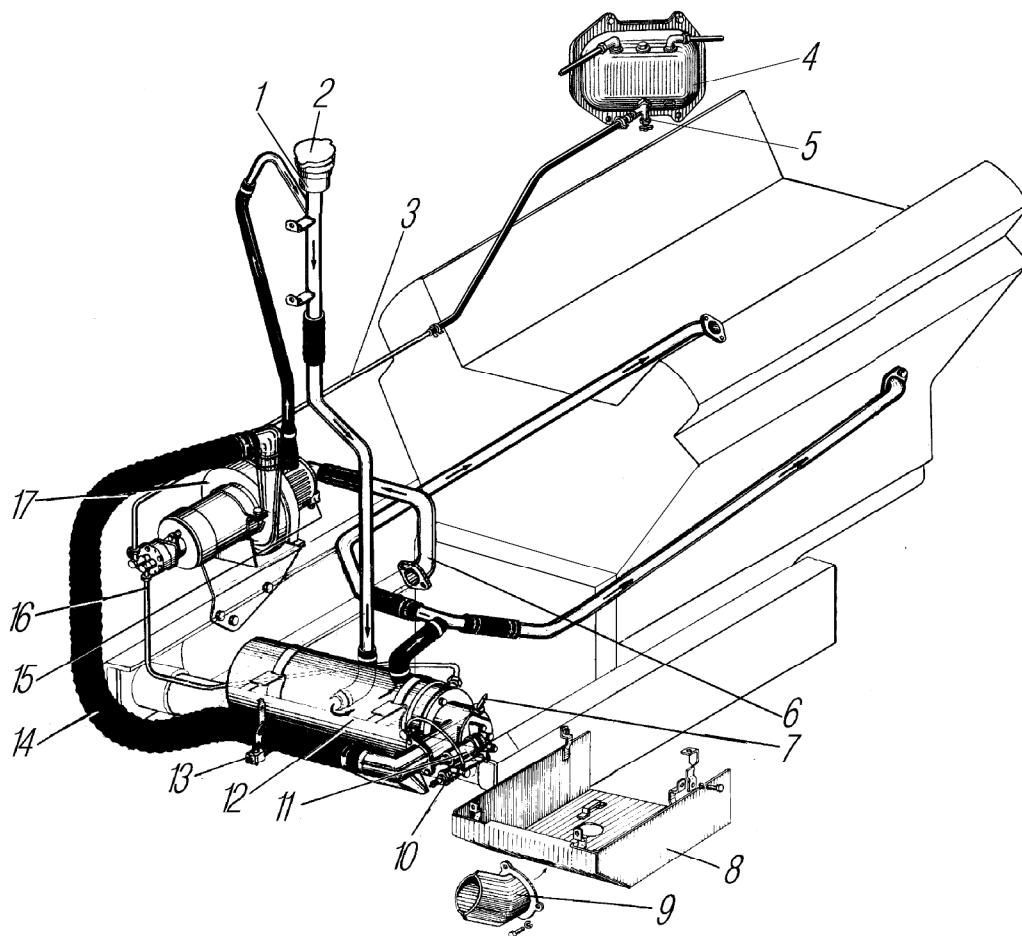

Fig. 25. Engine Starting Preheating System:
- heat exchanger 12 (Fig. 25) located on the first cross-member of the truck frame;
The preheater operates as follows: The fuel pump takes fuel from the preheater tank and injects it into the burner under pressure, with solenoid valve opened. In the burner fuel mixes with air, gets ignited and burns, heating the fluid in the heat exchanger. The fluid is forced by the pump through the pipelines, through cylinder block in the direction shown by arrows in Fig. 25.